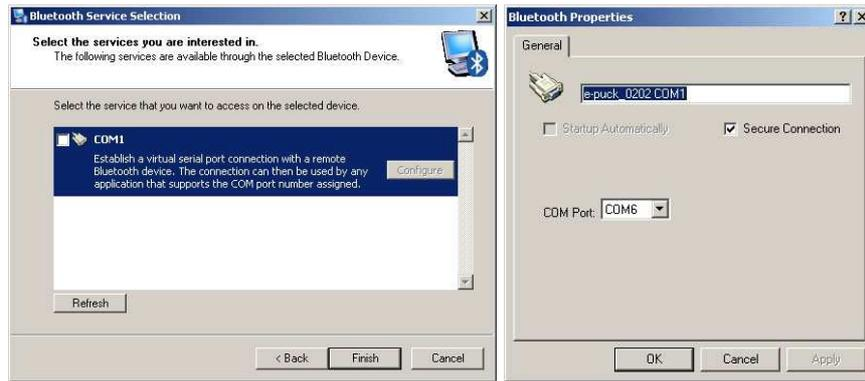

Figure 11: Left: Select the COM service of the e-puck robot. Right: Select the COM port where you want to have the e-puck robot.
5. As illustrated in figure 11 left, select the COM service of the e-puck robot.
6. As illustrated in figure 11 right, select the Windows COM port where you want to have your e-puck robot. In the example the chosen port is COM6. You will have to give this port to the program accessing to e-puck.